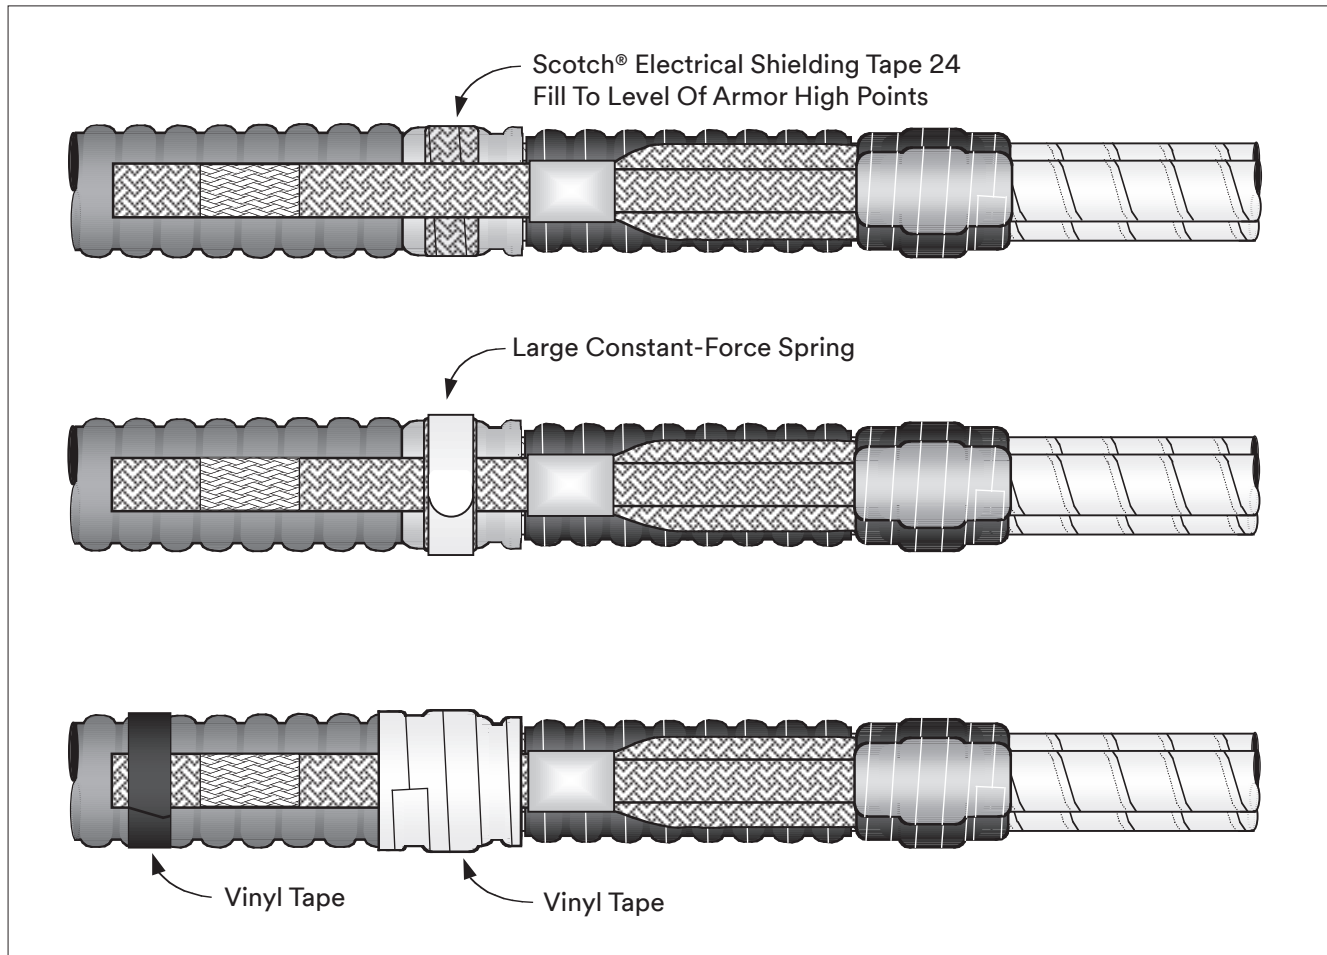

Figure 4
- 3.5 Fill one armor valley section with tightly-wrapped layers of Scotch® Electrical Shielding Tape 24 (Figure 4).
- 3.6 Secure ground braid assembly to cable armor using large constant-force spring (Figure 4). Once spring has been applied, cinch (twist with hand) to tighten.
- 3.7 Apply one half-lapped layer vinyl tape over large constant-force spring and cable armor (Figure 4).
Note: Apply vinyl tape to hold down ground strap (Figure 4).